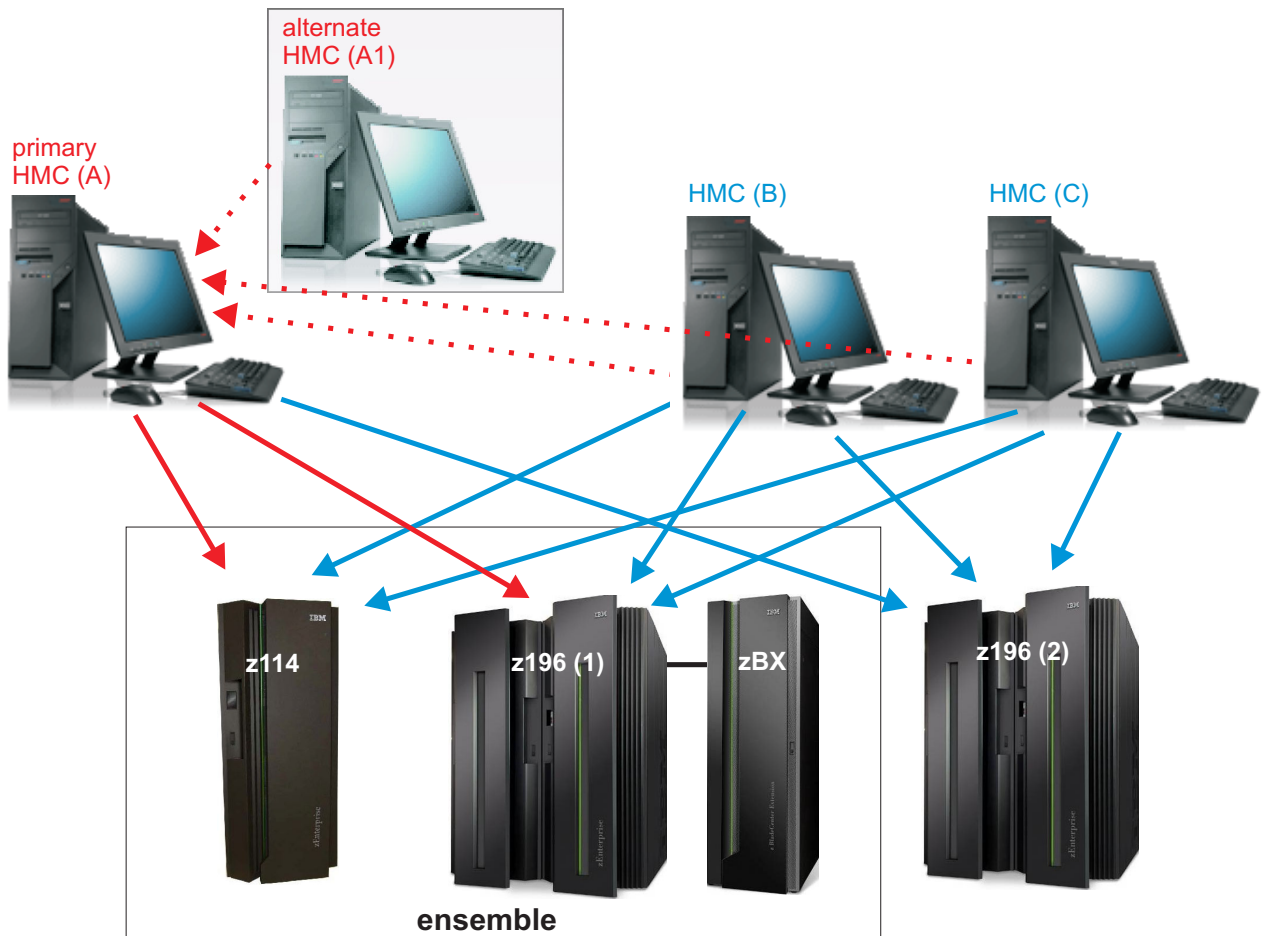

Figure 16. Hardware Management Console configuration
When managing an ensemble, two Hardware Management Consoles are required. The primary Hardware Management Console manages the CPCs (nodes) in an ensemble. (A single CPC, including any optional attached zBX, is called a node.) A primary Hardware Management Console can also manage CPCs that are not members of an ensemble. The alternate Hardware Management Console is used as backup. If the primary fails, the alternate Hardware Management Console takes over as the primary Hardware Management Console. An Hardware Management Console, other than the primary Hardware Management Console or the alternate Hardware Management Console, can also manage CPCs that are in an ensemble. (See Figure 16 on page 116.)
In Figure 16, HMC (A), the primary Hardware Management Console, can directly control the three CPCs (z114 and z196 (1) in the ensemble, and z196 (2) outside of the ensemble). HMC (A), because it is defined as the primary Hardware Management Console, will include ensemble-specific functions, but it can only perform ensemble-specific functions for z114 and z196 (1), not z196 (2).